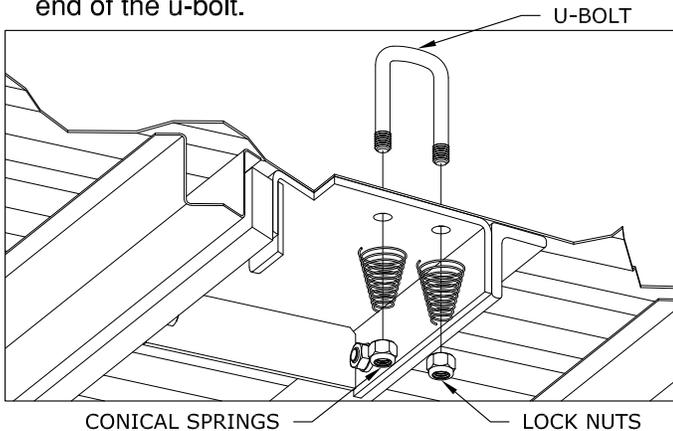

Figure F3: Cut away view from under the bed.
3. **Add springs.** Place a conical spring over each leg of the u-bolts and secure with a  $\frac{1}{2}$ " lock nut, see figure F3. Tighten the lock nut until the nut is flush with the end of the u-bolt.